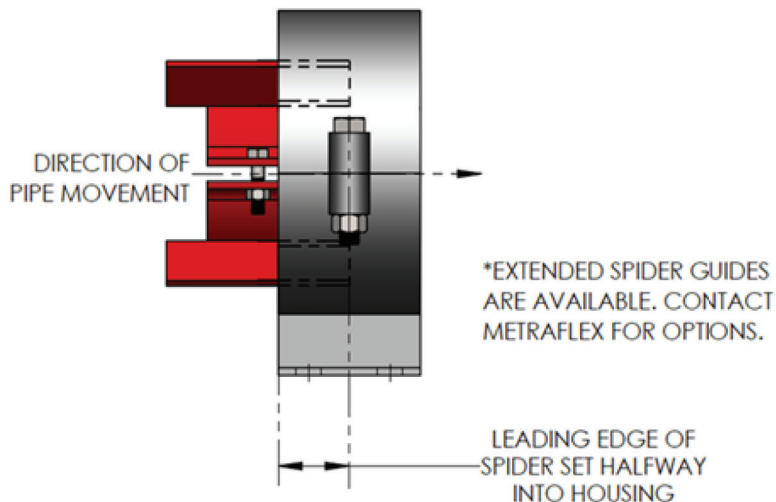

Figure 1. Spider Installation
2. Install the spider so that the leading edge of the spider is installed halfway into the housing, see Figure 1.